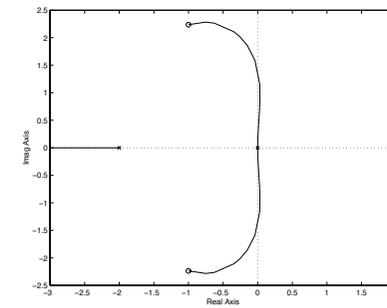

Figure 3.10a
3.10 a) The root locus is shown in Figure 3.10a. The system is asymptotically stable for  $a > 1$ .